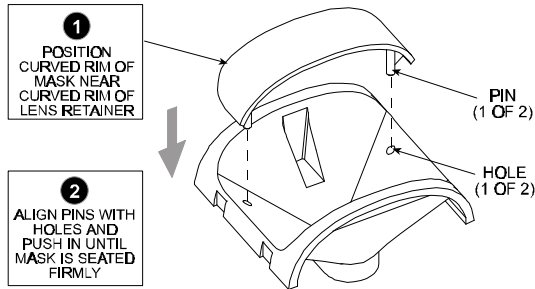

Figure 12. Inserting the Mask into Place
- B. Push the prefabricated plastic mask into place within the lens retainer, as shown in Figure 12.